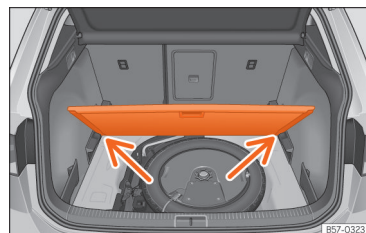

Fig. 172 Variable boot floor: tilted position.
- Rest the floor on its housings »» Fig. 172 [arrows].